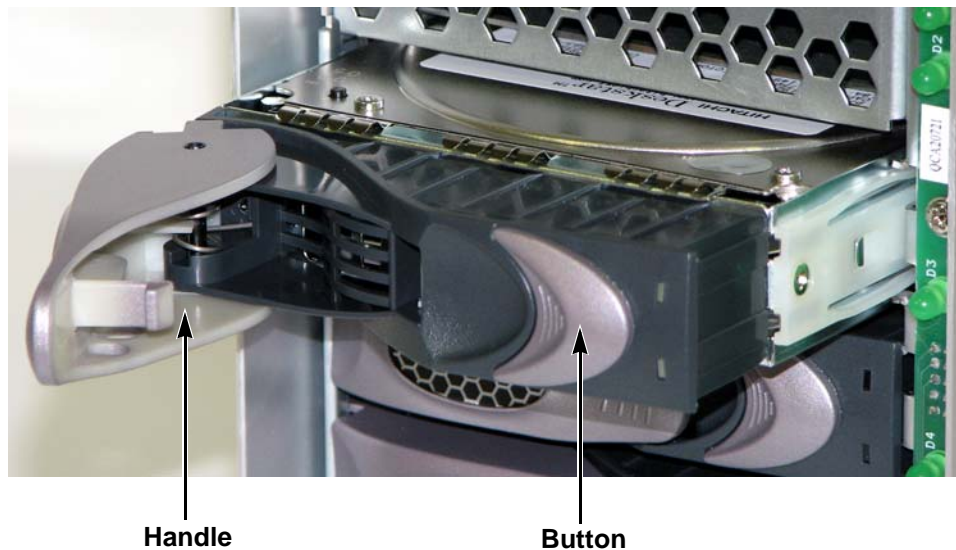

FIGURE 8-2. Handle and Button at the Disk Drive Modules.
4. Lift the handle while pulling forward on the disk drive. See Figure 8-2. Gently pull it forward. Set the defective disk drive module aside.